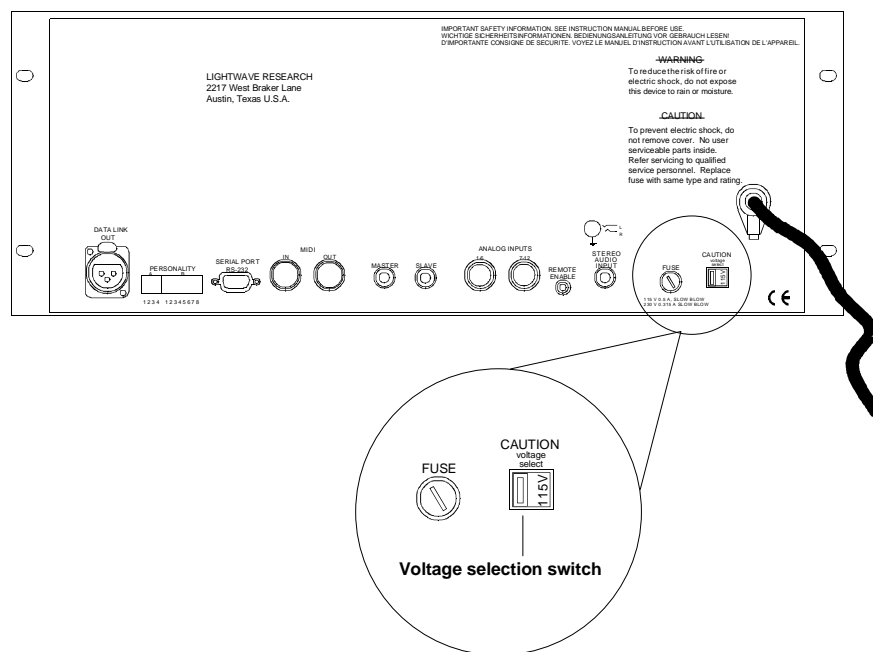

Figure 1. The controller's voltage selection switch shows its present voltage setting.
The controller's voltage selection switch and primary (line) fuse are located on the rear panel, as shown in Figure 1.
2. Using a small flat blade screwdriver or a coin, turn the fuse holder (shown in Figure 1) counterclockwise to remove the fuse.